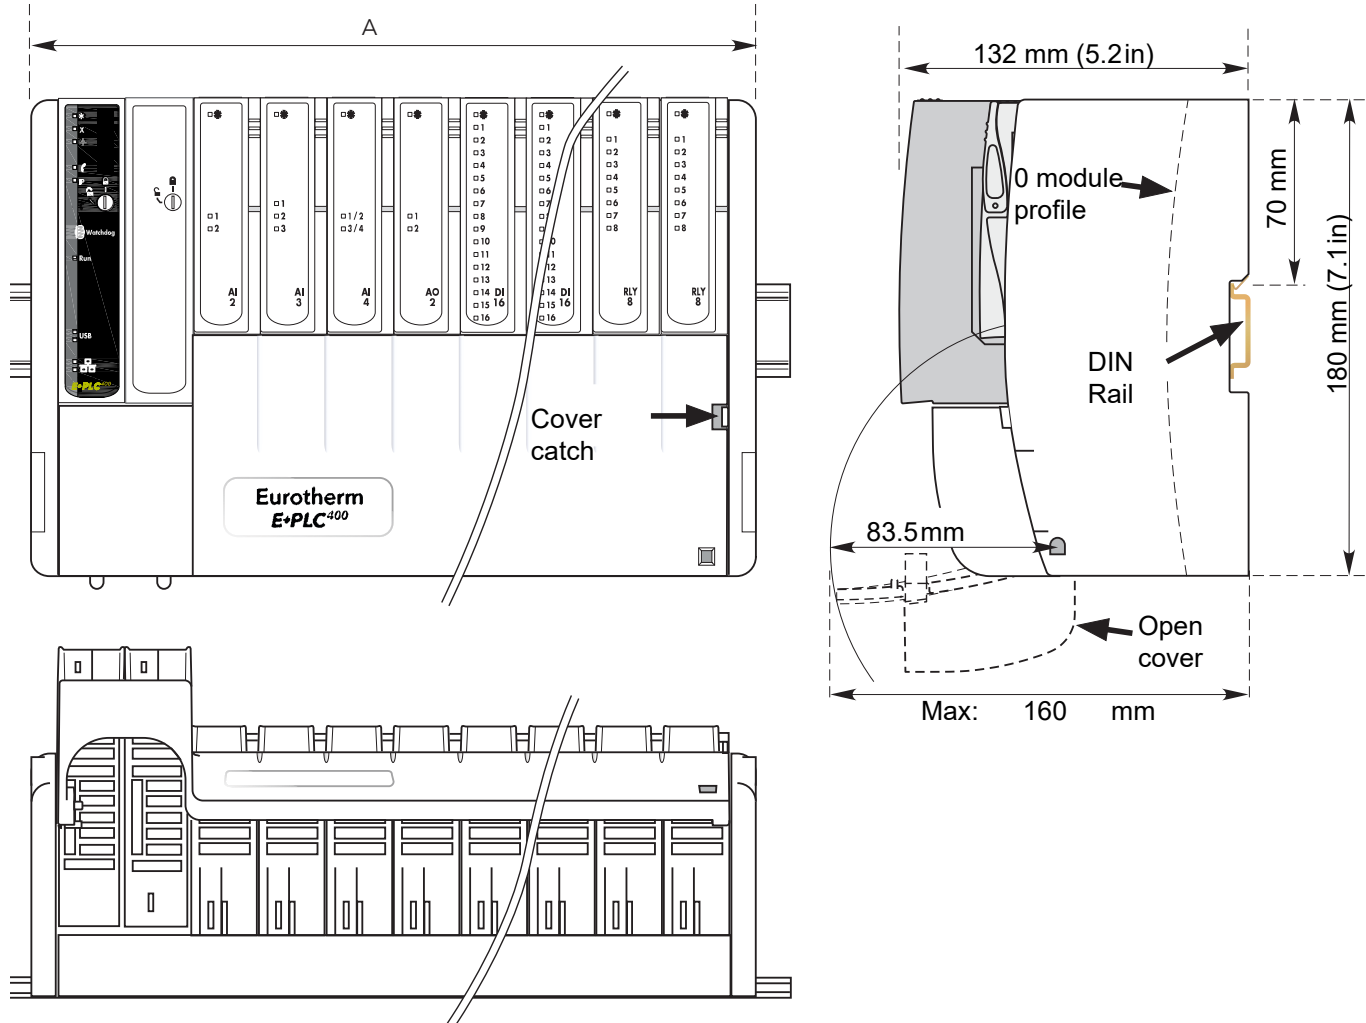
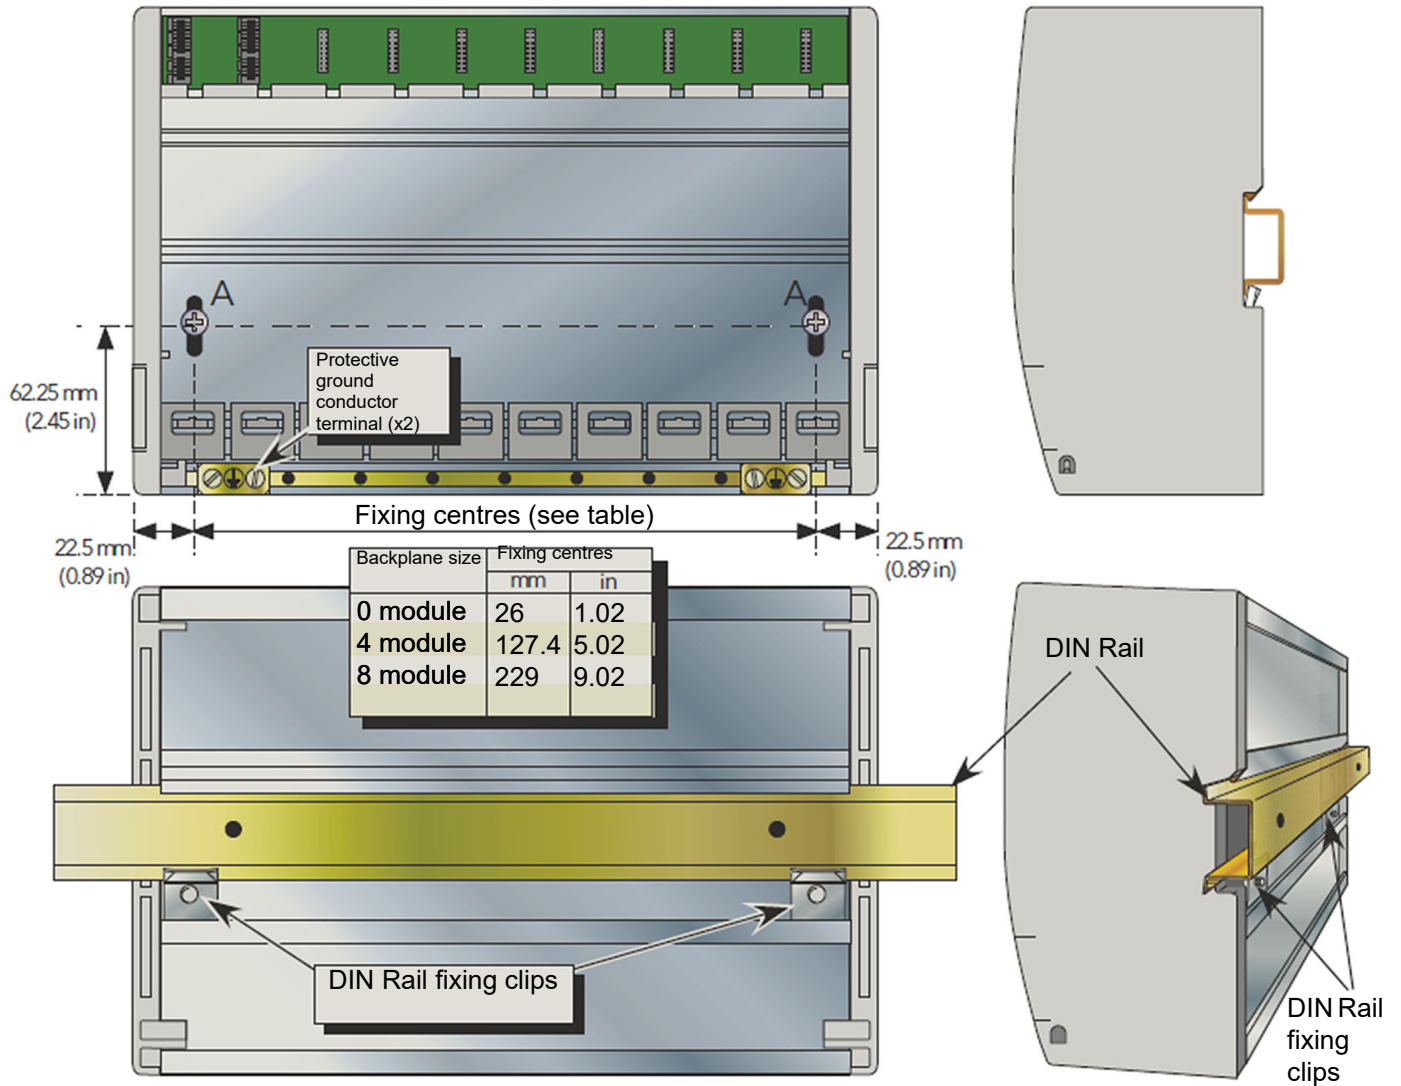
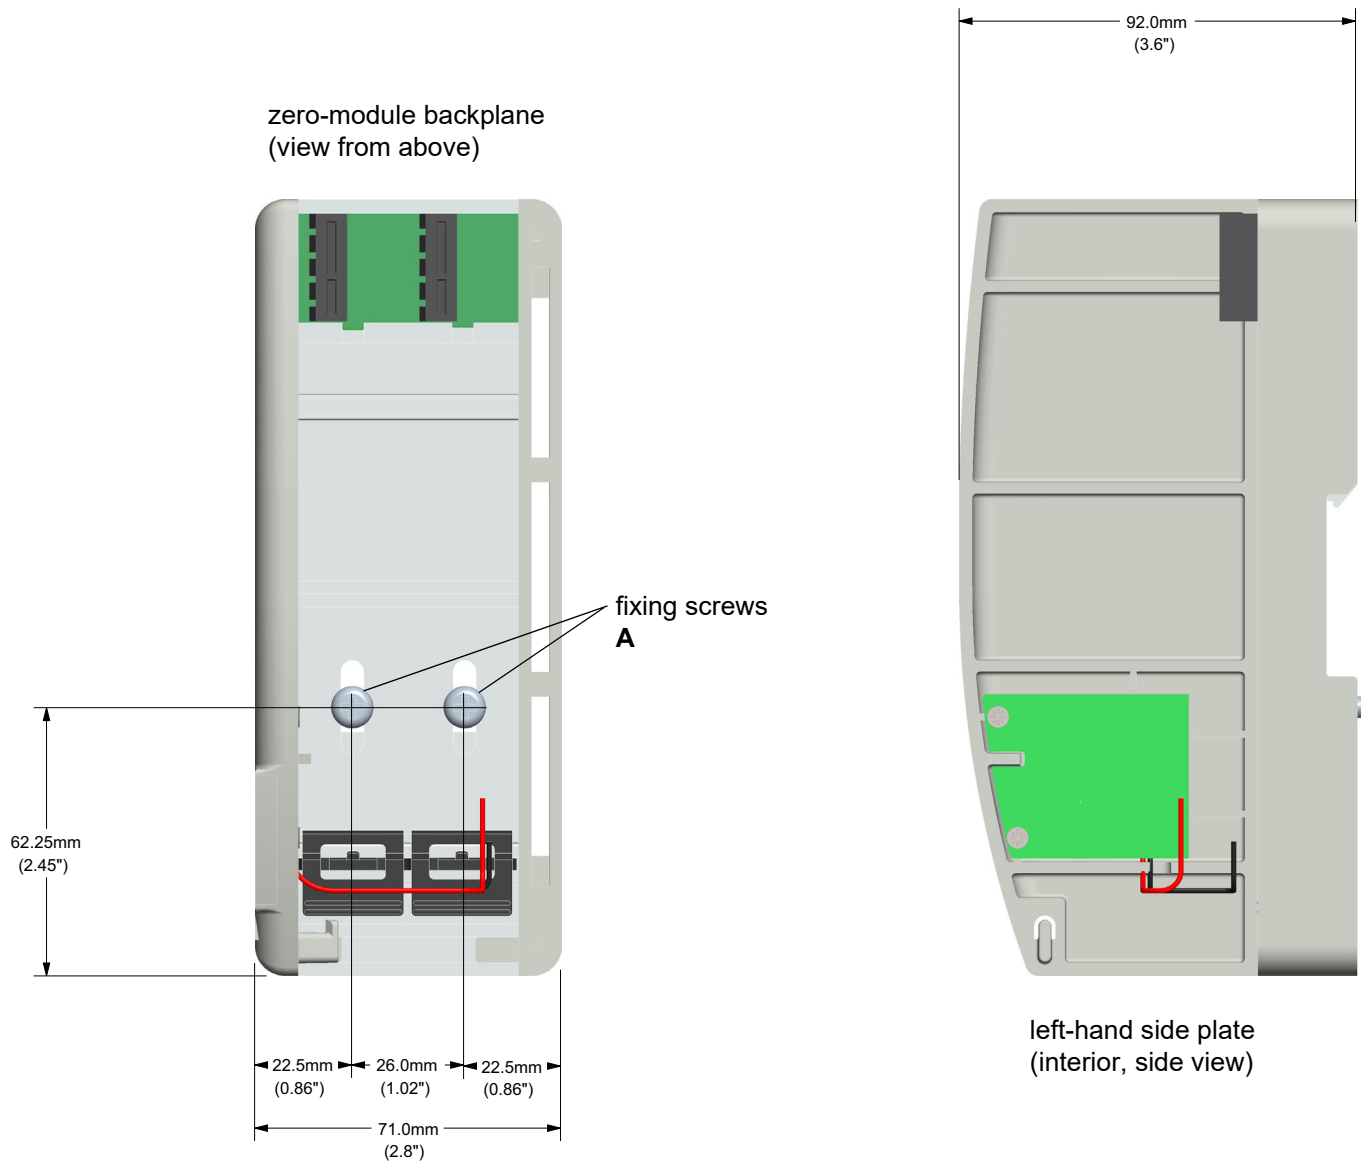

Figure 1: Overall dimensions
Figure 2: Fixing details (including protective ground conductor connections)
Figure 3: Zero-module backplane dimensions
Figure 1 and Table 2 give dimensional details for the E+PLC400; Figure 2 gives fixing details. Figure 3 shows details for instruments with a zero-module backplane.
Backplane size	Length of 'A' (figure 1)
2. Loosen the screws ('A' in Figure 2 and Figure 3) in the backplane, two or three turns, and allow them, and the associated fixing clips to slide to the bottom of the screw slot.
3. Lower the backplane on to the DIN rail such that the top edge of the rail fits into the slot on the underside of the support bar (see Figure 2 and Figure 3).
4. Slide the screws (A) and associated clips as far as they will go towards the top of the screw slots, ensuring that the top of each fixing clip locates behind the bottom edge of the DIN rail.
1. Remove the screws ('A' in Figure 2 and Figure 3) and associated fixing clips.
Figure 2 and associated text, above, gives protective earth ground conductor details.